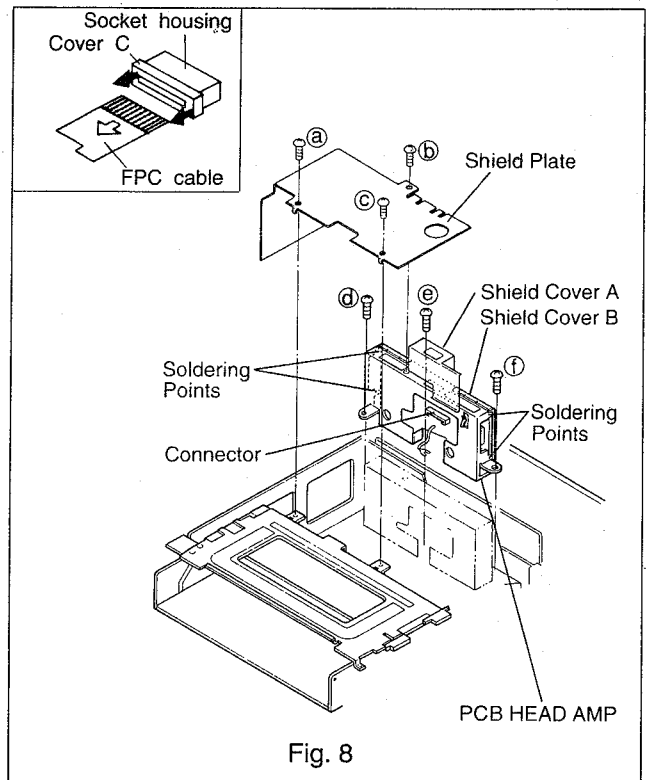

Fig. 8
- B. Remove three screws (a~c) and remove the shield plate, as shown in Fig. 8.
- D. Disconnect the FPC cable by gently pulling cover C on the socket housing as shown in Fig. 8.